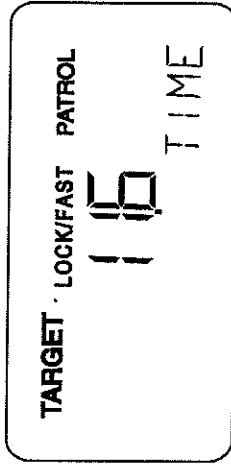

Fig. 24a
3. While observing the target vehicle traverse the measurement zone, start timing by pressing the **START/STOP** key or trigger once upon entry and stop timing by pressing the **START/STOP** key or trigger again upon exit. Fig. 24a illustrates the timing function in the Stopwatch mode.